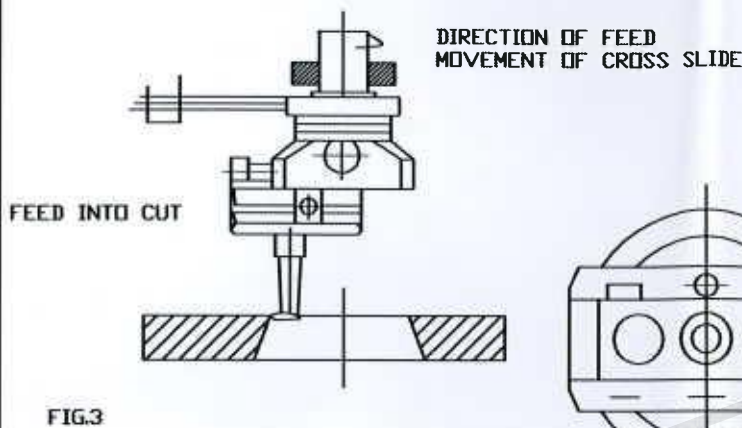

FIG.3
In case of spindle rotation in clockwise direction, the feed movement of the tool slide (5) can operate in one direction only (see Fig.3). Despite this, it is possible to bore expanding or contracting taper bores.
- 1) the tool has to be clamped according to instruction given in item b) and set to the starting diameter of boring with the aid of the dial (4).
- 4) the stop has to be set according to Fig 3 and secured.
- 5) the clutch (15) has to be thrown - in and the clutch setting screw (14) completely screwed-in. Thereby, clutch disengagement in case of an overload is avoided. For this reason, however, increased attention has to be paid when working.
- 6) the holding-down rod (6) has to be slid in the hole in the braking ring (1) and lean against the steady stop provided on the machine.
- 7) now, start the machine. Simultaneously with the spindle feed movement the tool slide (5) also moves : thus producing the required taper bore.
- 8) the boring operation being completed, the holding-down rod (6) has to be slid out, the boring head returned to its starting position and by means of the stop (10) and gauge block of by means of the graduated dial (4) the next cut has to be set. This procedure is repeated according to the need. External tapers can be turned in a similar way.